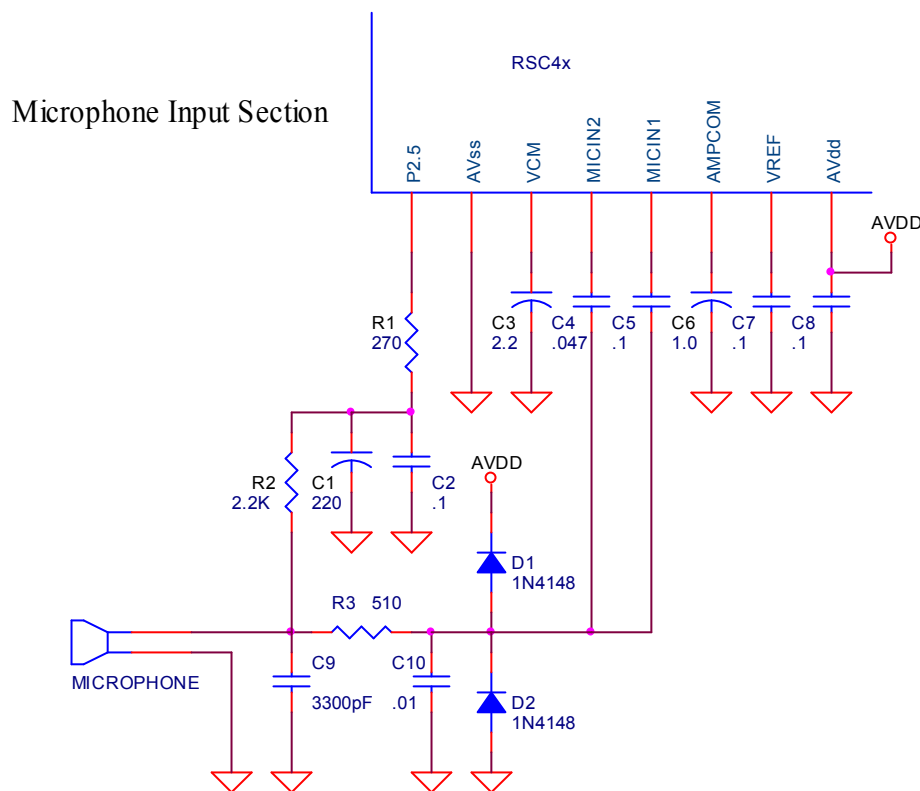

Figure 1
- Microphone – Virtually all RSC-4x applications have a microphone of some kind, usually an external electret microphone. An electret microphone acts as a current source, but also requires about 100 microamps to operate. If a design does not use Idle with Audio Wakeup mode, the external microphone power should be turned off. Refer to figure 1 for a sample schematic on how an application that uses some combination of Sleep and Idle modes might look. In this circuit, P2.5 is used to control the microphone power. During normal operation or Idle with Audio Wakeup mode, P2.5 is configured as a high output, thus providing power to the microphone. During Sleep mode or Idle without Audio Wakeup modes, P2.5 is configured as a low output, thus turning off the microphone and saving battery life.
Batteries drop in voltage as they are used. For example, while AA batteries are nominally rated at 1.5V, a brand new battery will usually start out its life at about 1.65V, then drop to 1.5V as it is used. As it is further used, it's voltage will continue to drop until it is completely depleted, at which point the measured voltage will be close to 0V. A representative battery depletion chart is shown in Figure 1.